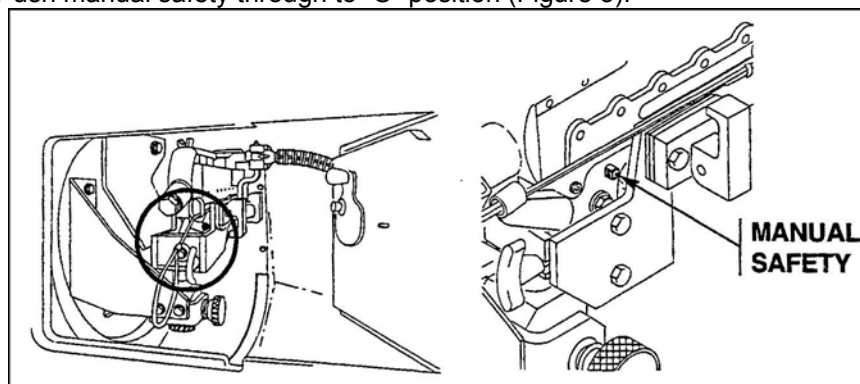

Figure 3. Manual safety.
- (1) Pull charger handle back firmly.
- (2) Push manual safety through to "S" position (Figure 3).